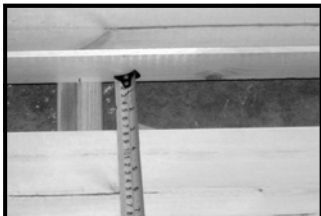

Fig J4
6. Measure the distance between the last full board and the wall (Fig J4). This measurement is then marked on the final board and then cut to fit , **leaving the groove on the board**.